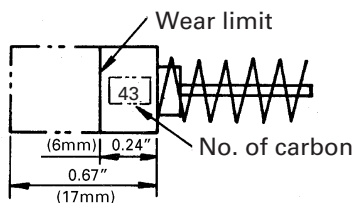

Fig. 17
2. Inspecting the carbon brushes (Fig. 17)
NOTE: Use metabo HPT carbon brush No. 43 indicated in Fig. 17.